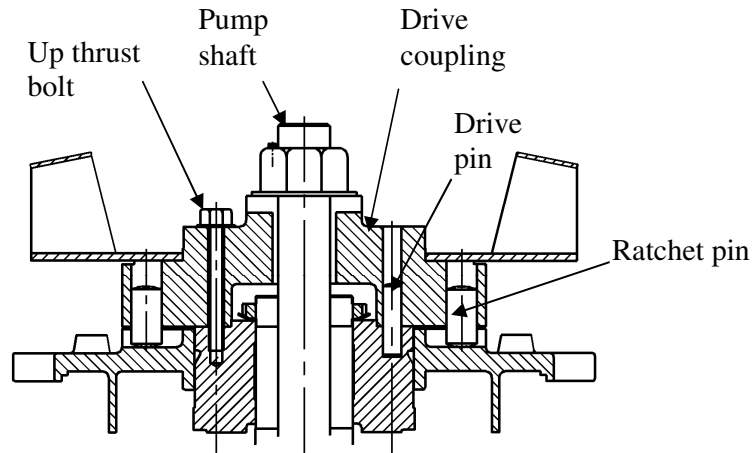

Fig. 11
Bolted coupling as Fig.11
3.3.6 Non-Reverse Ratchet/Coupling, as Fig. 11 (If fitted)